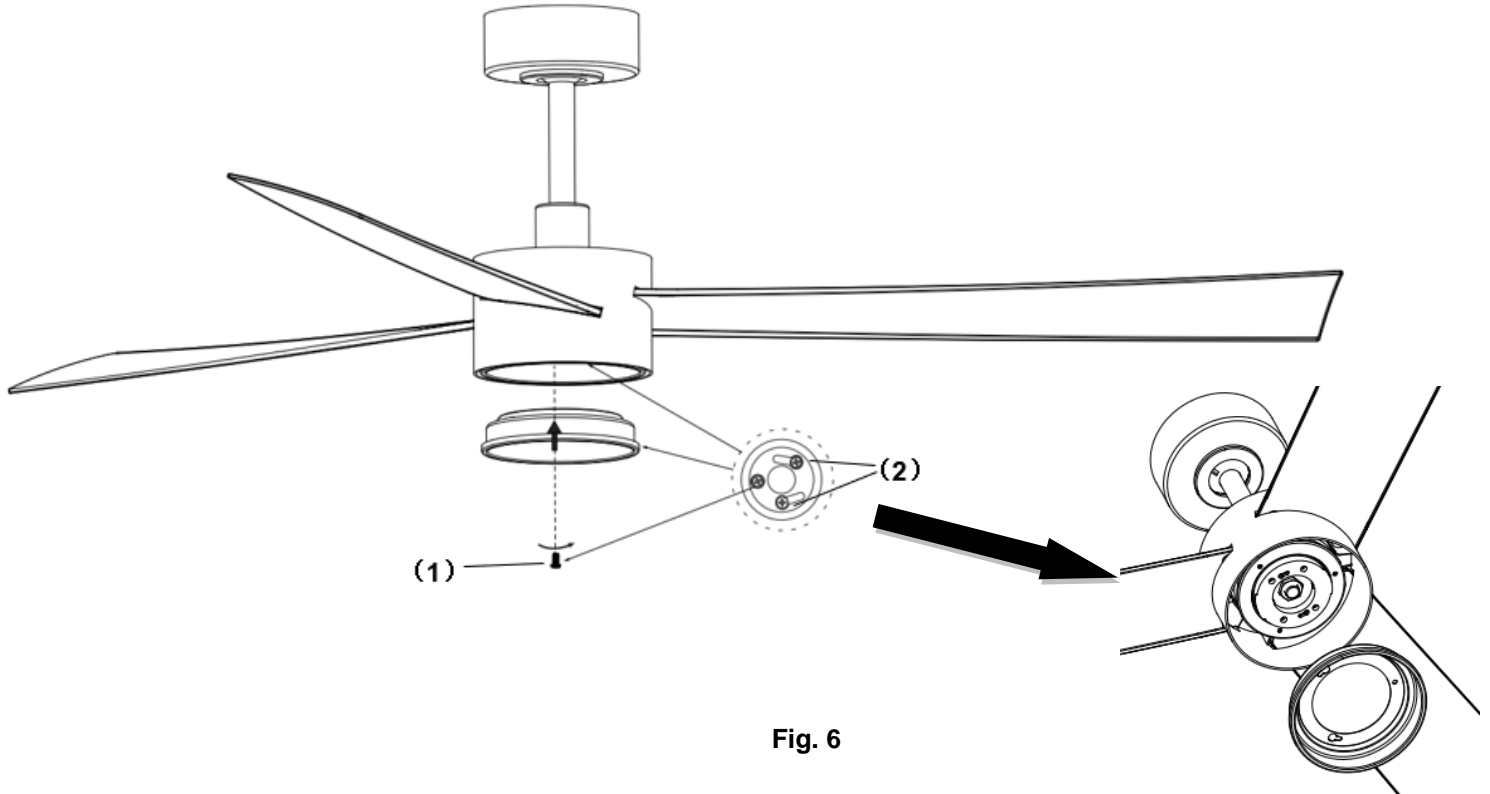

Fig. 6
**INSTALLATION OF LIGHT KIT (Fig. 6)**
1. Loosen the screw (1) from the fan bracket. (Fig. 6)
2. Align the two slot screws with the keyhole slots (2) of the light kit plate. (Fig. 6)
3. Turn the light kit plate counterclockwise until the slot screws are firmly at the end of the slots (2).
4. Secure screw (1) to the light kit plate. Tighten all three screws. Do not over-tighten.